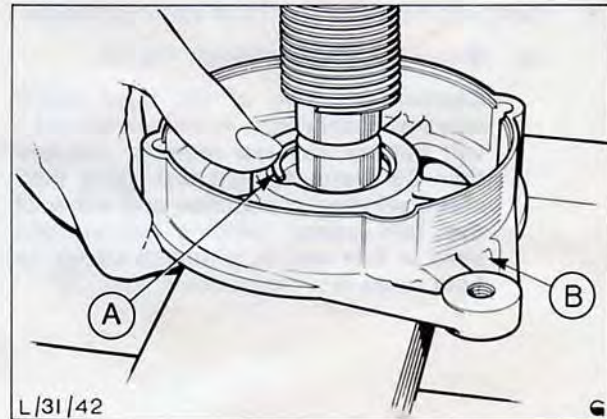

Fig. 48. Removing the drive end bearing retaining circlip
15. To facilitate removing drive end bearing retaining circlip on alternator position housing under a press and apply a light pressure to the rear face of the bearing. This will release any pressure from bearing thrust washer against the circlip and at same time hold housing firmly, Fig. 48.